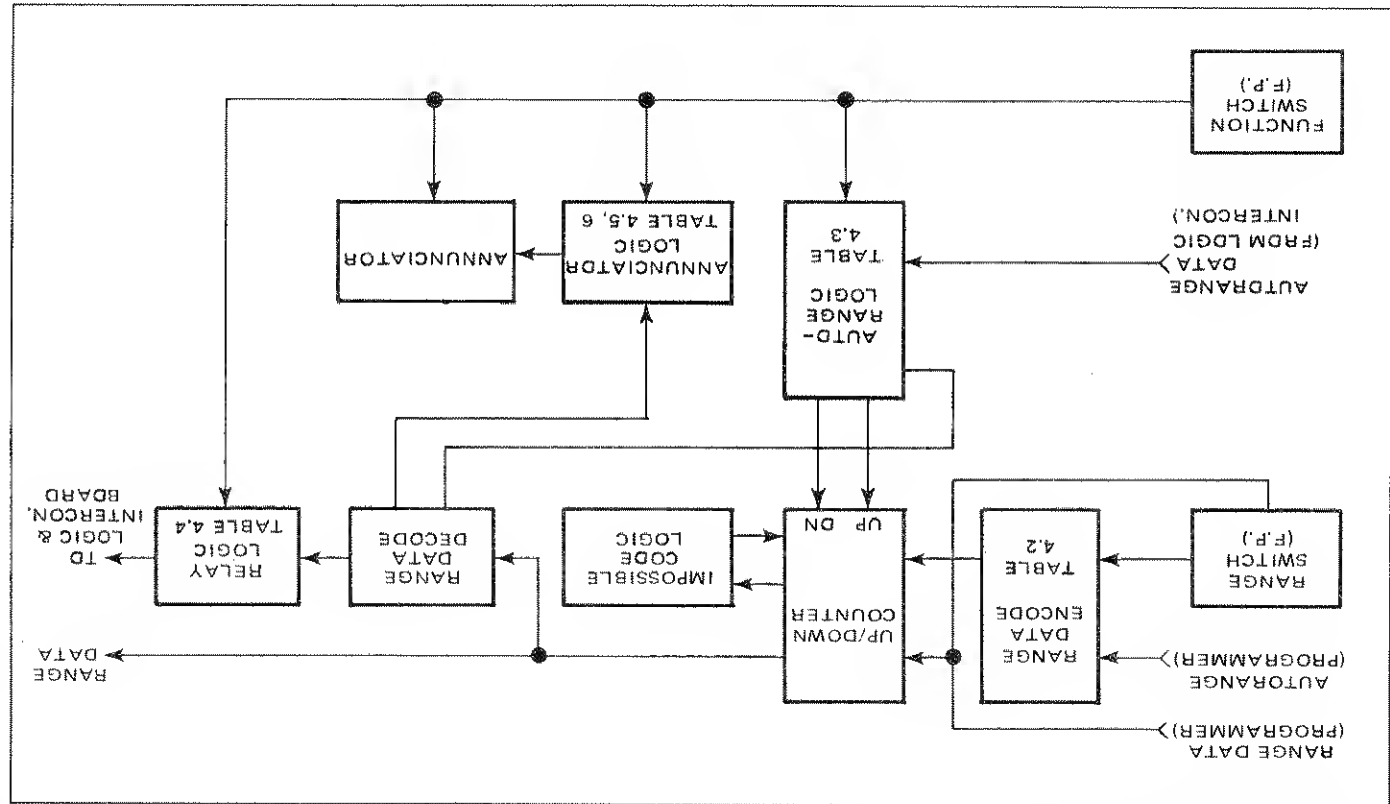

Figure 4.15 - Display Board
4.57 The Display board is a single printed circuit board and occupies connectors J1 and J2 on the Main Logic board. The display board is located directly behind and parallel to the front panel of the instrument; the function and range control knobs on the front panel are connected by shafts to the rotary switches on the display board. A mechanical interlock attached between the two shafts prevents the manual selection of incorrect function/range combinations. The display board contains the function, the manual and autorange, and the annunciator circuitry. The circuit is shown in simplified block form in figure 4.15 and described below.